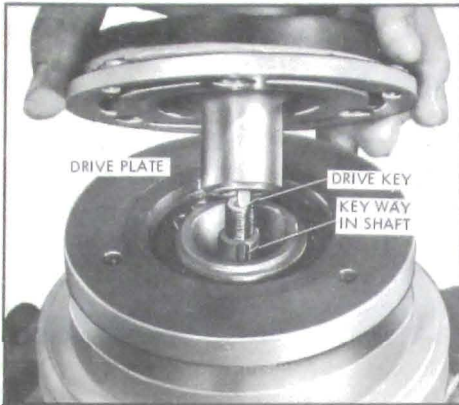

Figure 11-44—Positioning Drive Plate on Shaft
1. Insert square drive key into hub of drive plate so it projects approximately 3/16" out of end of keyway. See Figure 11-44.
2. Line up key in hub with keyway in shaft and position drive plate on shaft. See Figure 11-44.